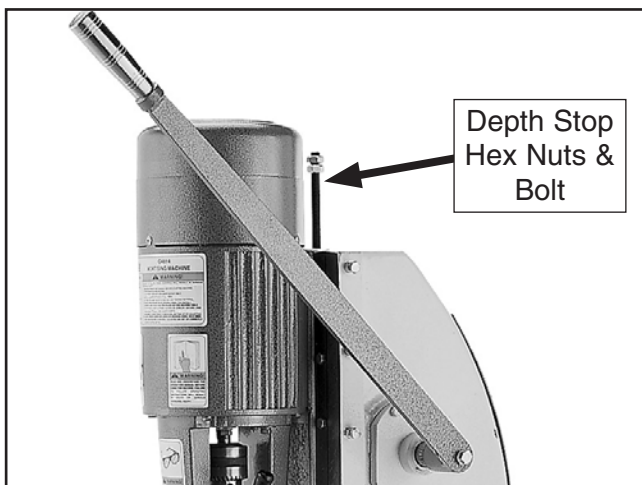

Figure 10. Depth stop hex nuts and bolt.
3. The depth stop hex nuts have been adjusted at the factory to prevent the head from moving during shipping. Thread both hex nuts up the depth stop bolt so that you can lower the head (see **Figure 10**).